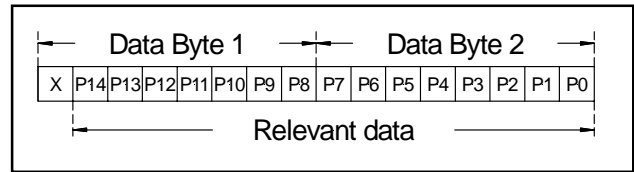
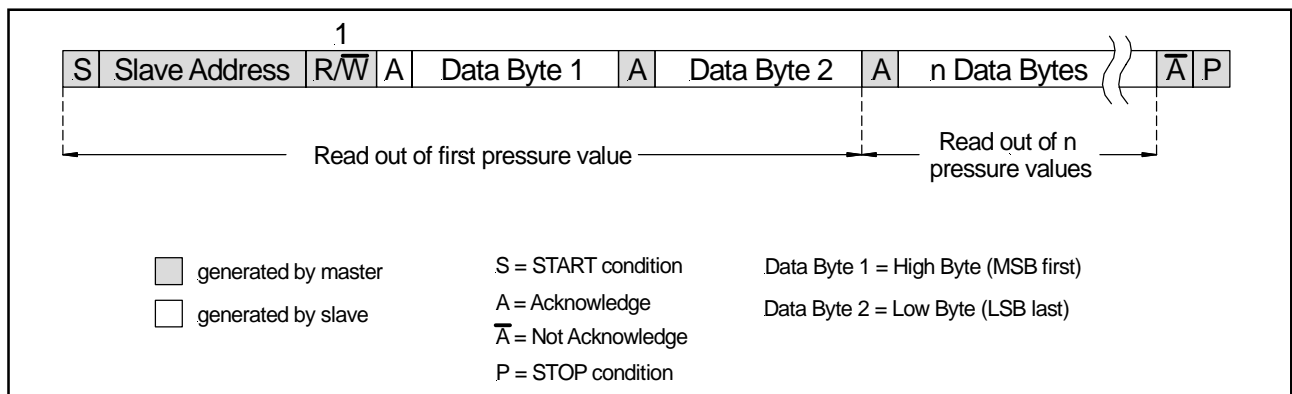

Fig. 10: Two data bytes containing the pressure value as a 15 bit information
Fig. 9: Readout of digital pressure information using I²C bus protocol
To read out a pressure value the master generates a START condition and sends the sensors slave address (either the hard coded address 0x1111000bin or the secondary factory programmed address) followed by a READ command ($R/\overline{W}=1$) (see Fig. 9). At the moment of the first acknowledge (A) from the sensor, the master-transmitter becomes a master-receiver. The sensor starts to send two data bytes containing the current pressure value as a 15 bit information placed in the output registers of its ASIC (see Fig. 10). The master must acknowledge the reception of the first data byte. To terminate the pressure reading from the sensor the master sends a STOP condition. The sensor is also able to send pressure values “online”. That means if the master does not send a STOP condition but an acknowledge after the third exchanged byte the sensor-slave will go on sending the last available pressure value when it is clocked.